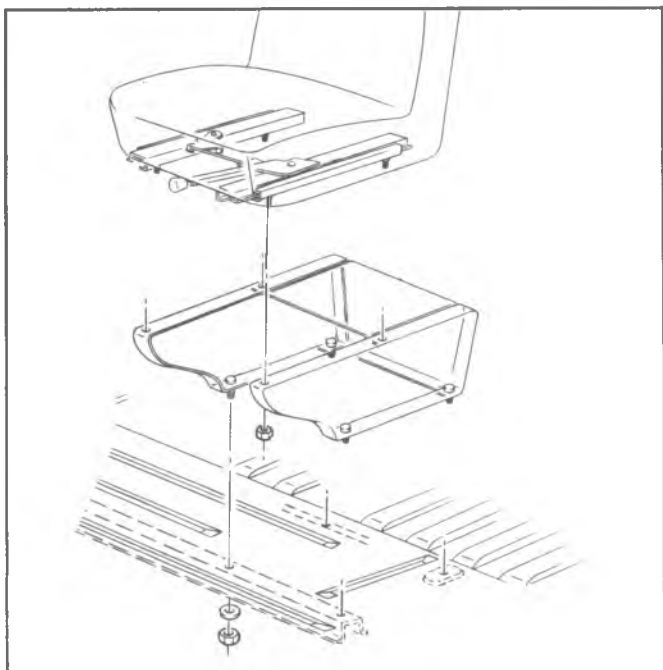

Fig. 35G—Driver's Seat
2. Remove adjuster from seat. See figure 35G.